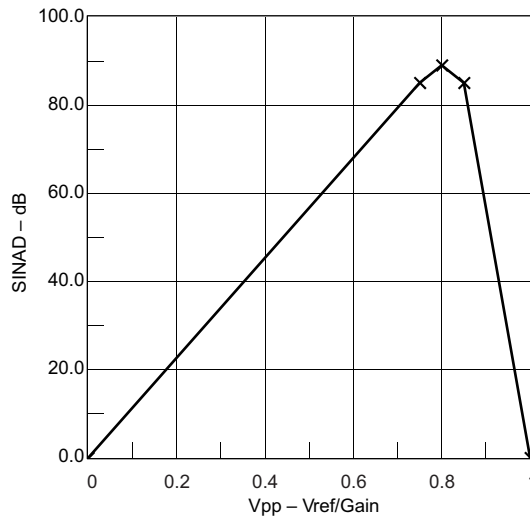

Figure 5-18. SINAD vs V_{PP}
(1) The following voltages were applied to the SD24_B inputs: $V_{I,A+}(t) = 0$ V + $V_{PP} / 2 \times \sin(2\pi \times f_{IN} \times t)$ and $V_{I,A-}(t) = 0$ V - $V_{PP} / 2 \times \sin(2\pi \times f_{IN} \times t)$ resulting in a differential voltage of $V_{ID} = V_{I,A+}(t) - V_{I,A-}(t) = V_{PP} \times \sin(2\pi \times f_{IN} \times t)$ with V_{PP} being selected as the maximum value allowed for a given range (according to SD24_B recommended operating conditions) (also see Figure 5-18).